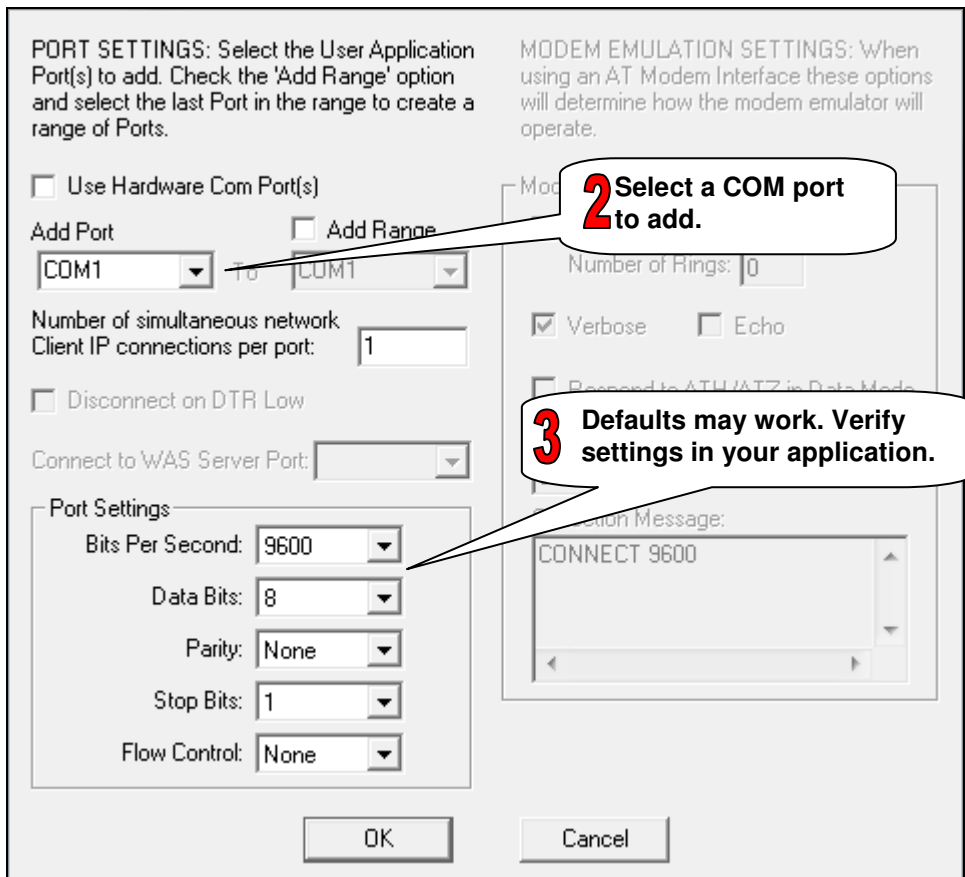

Figure 3 – InvisiConnect™ Configuration – COMs for Applications
1. Click on <Add> in the Application Program Port Configuration section to add a COM (communications) port to InvisiConnect™. Refer to Figure 3 to complete the following steps.